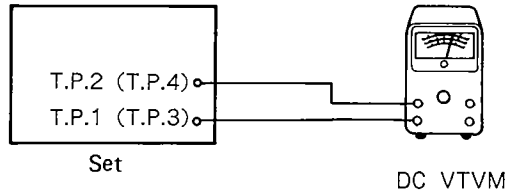

Figure 13
- (1) Idling Adjustment (Figure 13)